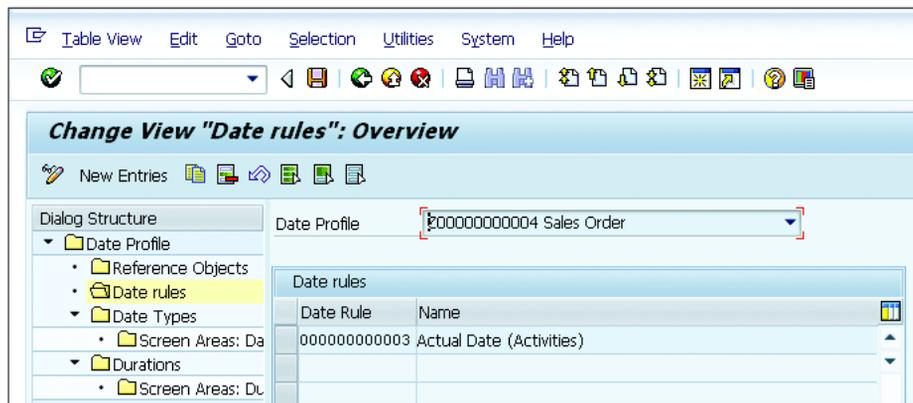

Figure 4.71 Date Profile Date Rule
- Assign the date rule to the date profile based on your business scenario by navigating to the DATE RULES folder. As shown in Figure 4.71, the 000000000003 – ACTUAL DATE (ACTIVITIES) date rule is assigned to the date profile. This rule calls the standard FM CRM_DATES_ORDERACTUAL_TR.